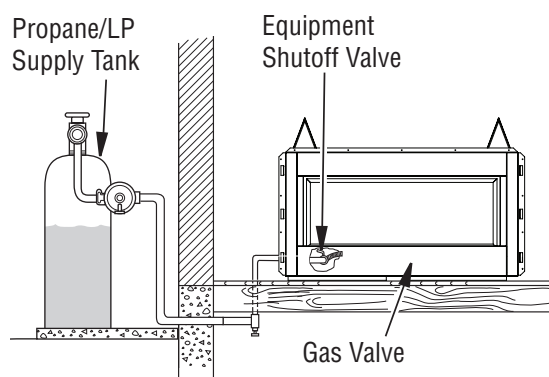

Figure 12 - Checking Gas Joints for Propane/LP Gas Fireplace
3. Check all joints from gas meter to equipment shutoff valve for natural gas or propane/LP supply to equipment shutoff valve for propane/LP (see Figures 12 or 13). Apply noncorrosive leak detection fluid to all joints. Bubbles forming show a leak.
4. Check all joints from equipment shutoff valve to gas control valve (see Figures 12 or 13). Apply noncorrosive leak detection fluid to all joints. Bubbles forming show a leak.